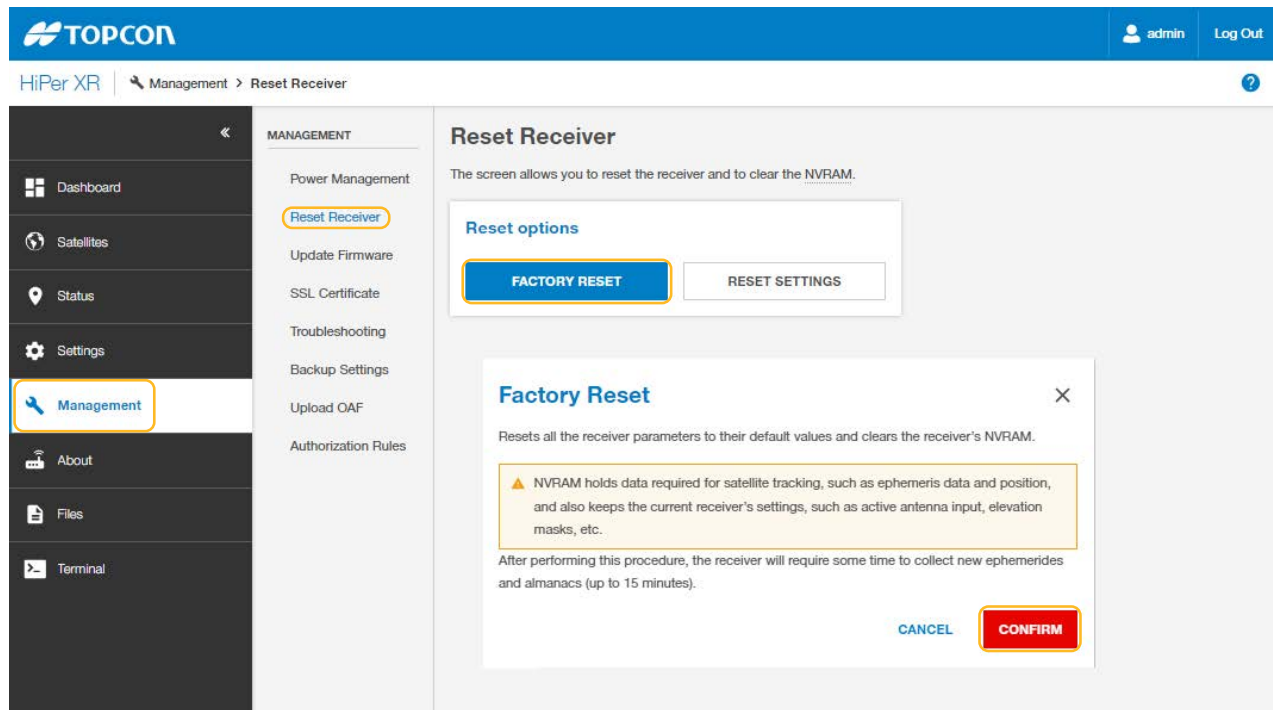

Figure 3-17: Factory Reset
1. Connect the HiPer XR GNSS receiver to a field controller or computer and open the on-board web UI (Figure 3-17 on page 3-18).